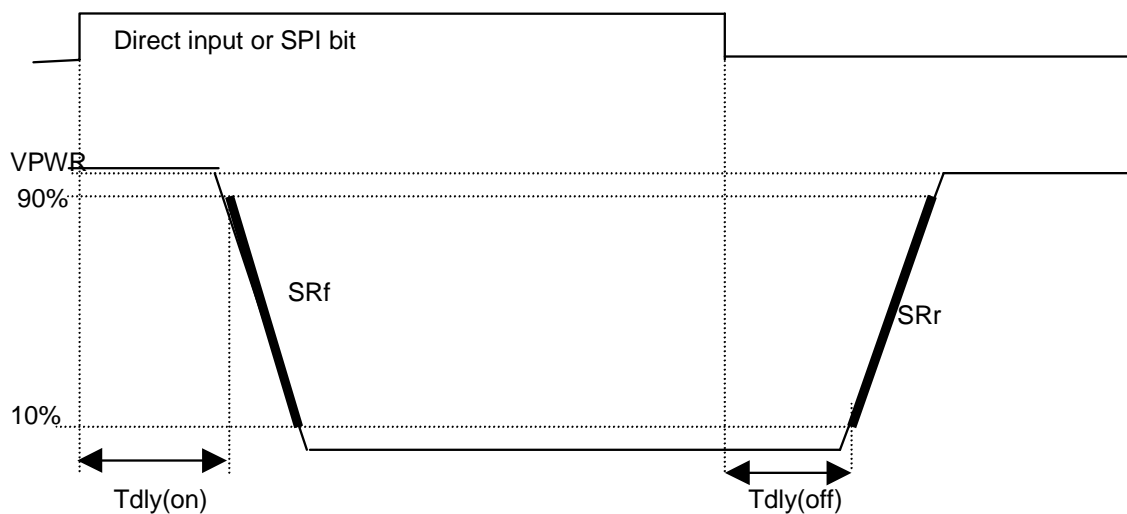

Figure 6. Output Slew Rates and Time Delays, Low Side
31. Low-side output rise and fall slew rates measured across a  $5.0\ \Omega$  resistive load at low-side output = 10% to 90% (see Figure 6, page 17).
32. Low-side output turn-ON delay time measured from 50% of the rising ILS to 90% of  $V_{OUT}$  with  $R_L = 27\ \Omega$  resistive load (see Figure 6, page 17).
33. Low-side output turn-OFF delay time measured from 50% of the falling ILS to 10% of  $V_{OUT}$  with  $R_L = 27\ \Omega$  resistive load (see Figure 6, page 17). These parameters are guaranteed by process monitoring.